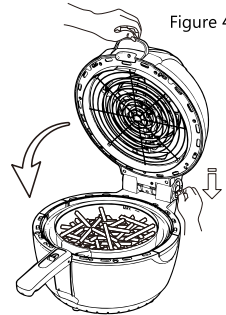

Figure 4
-Do not fill the Basket (13) over the MAX fill position.
3. To close the Top Cover (9), hold the Lid Handle (3) with one hand and use your other hand to push down on the Lid Release Switch (2). Slowly lower the Top Cover (9) down until it fully closes. (See Figure 4)